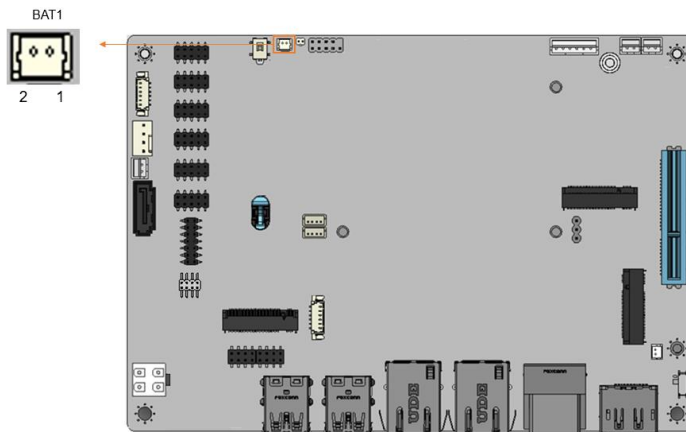

Figure 3-2: Battery Connector Location
- CN Location:** See **Figure 3-2**